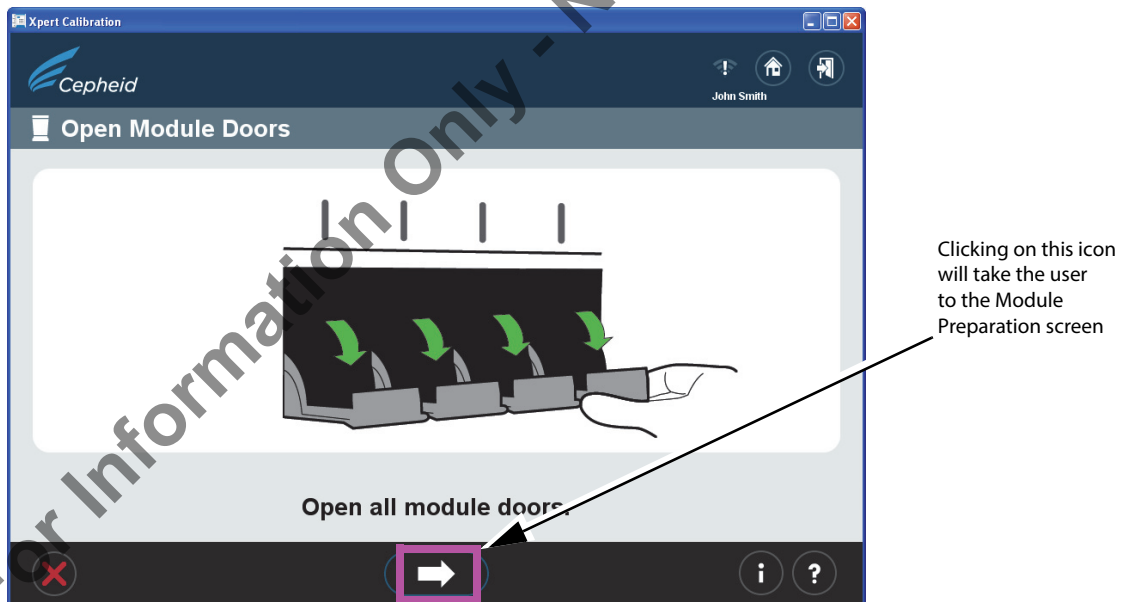

Figure 7. Open Module Doors Screen
- When all information has been entered, click the forward arrow button at the bottom of page 2 of the Contact Information screen. The **Open Module Doors** screen will appear. See Figure 7. Manually open all module doors to enable cartridge loading.